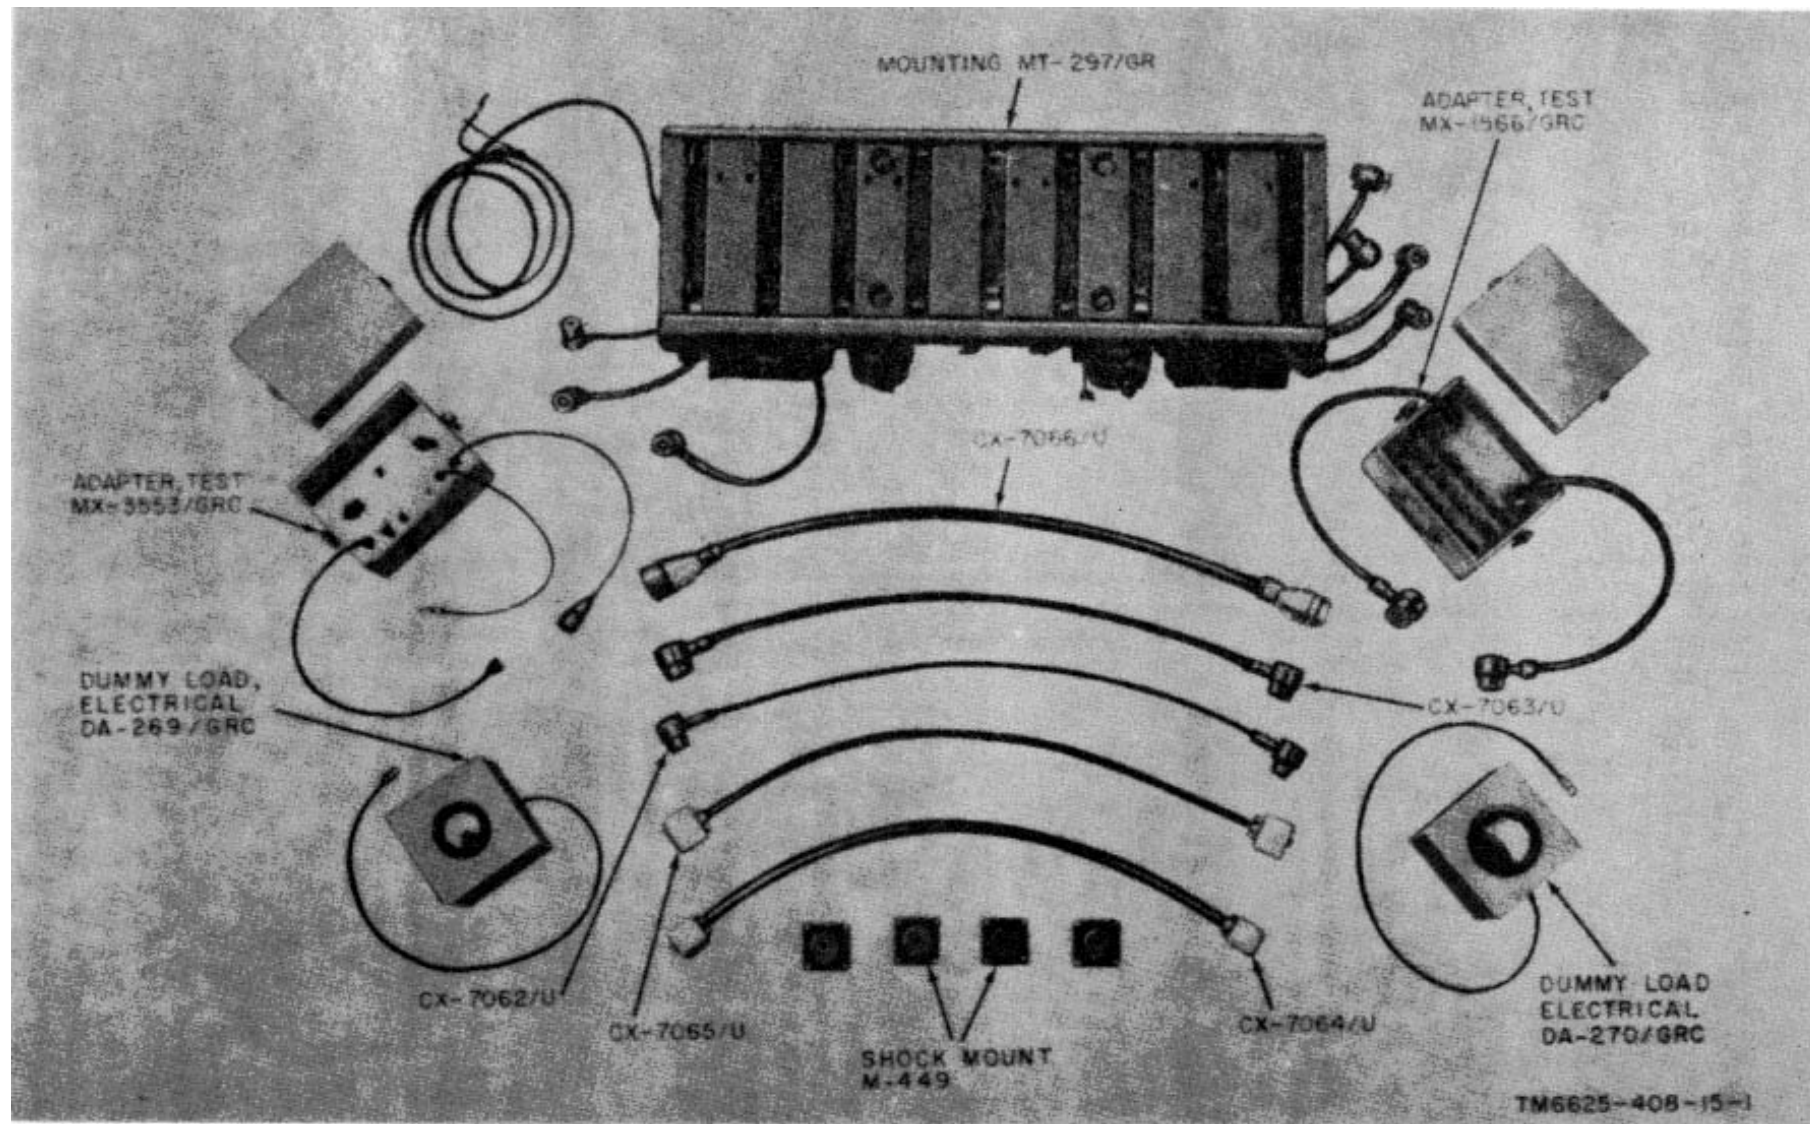
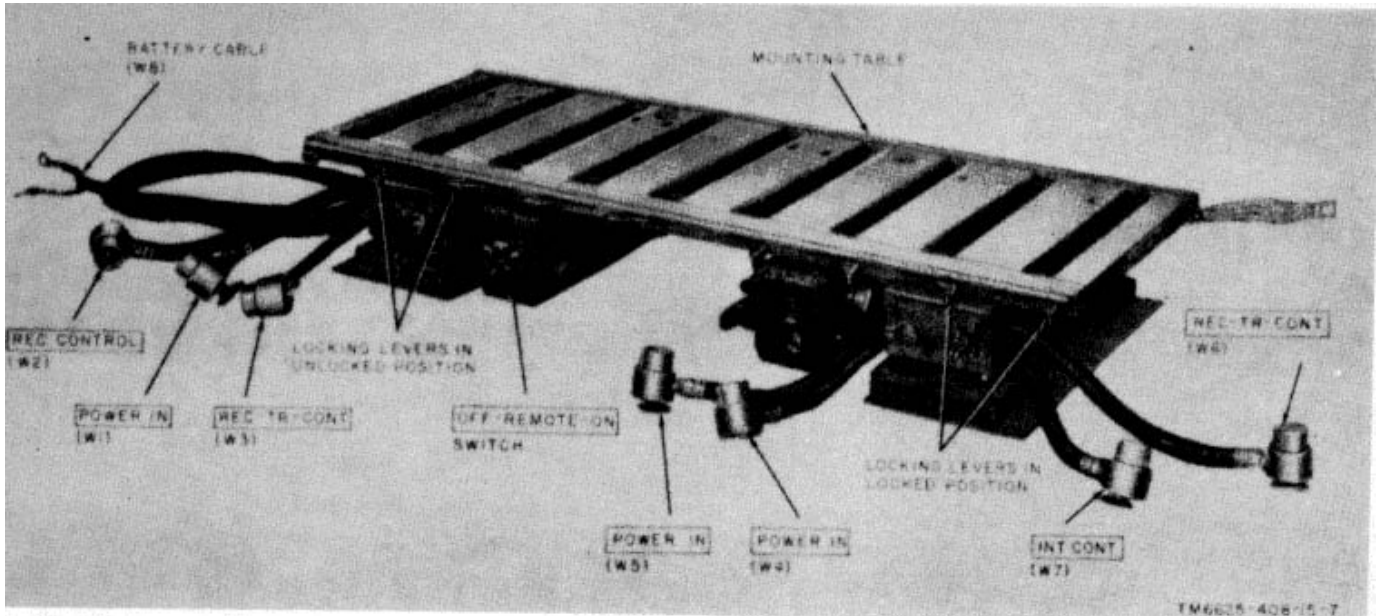

Figure 1. Test Facilities Kit, Radio MK-153/GRC.
Figure 5. Mounting MT-297/GR.
a. Test Facility Kit, Radio MK-163/GRC (fig. 1) contains maintenance equipment required to facilitate third echelon and higher maintenance on components of Radio Sets AN/ GRC-3 through -8, and AN/PRC-8, -9, and -10.
The components of Test Facilities Kit, Radio MK-153/GRC are listed in the basic issue items list (app. III) and are illustrated in figure 1.
a. *Dummy Load, Electrical DA-269/GRC* (fig. 1). The high-power dummy antenna is a radiofrequency (RF) ammeter with a resistor ring and cable assembly mounted in a wooden box. The RF ammeter is a 0-1-ampere meter mounted on the front panel of the box. A 34 inch long coaxial cable, terminated with a coaxial connector plug, is used to connect the high-power dummy antenna to the antenna output socket of Receiver-Transmitter RT-66/ GRC, RT-67/GRC, or RT-68/GRC (receiver-transmitter).
b. *Dummy Load, Electrical DA-270/GRC* (fig. 1). The low-power dummy antenna is similar in appearance
c. *CX-7062/U* (fig. 1). The CX-7062/U is an 8-conductor rubber covered cable with a 9pin male connector at each end.
d. *CX-7063/U* (fig. 1). The CX-7063/U is a 16-conductor rubber covered cable with a 14pin male connector at each end.
e. *CX-7064/U* (fig. 1). The CX-7064/U is a 15-conductor rubber covered cable which is terminated at one end with a 15-pin male connector and the other end with a 15-pin female connector.
f. *CX-7065/U* (fig. 1). The CX-7065/U is a 20-conductor rubber covered cable. One end terminates to a 20-pin male connector and the other end to a 20-pin female connector.
g. *CX-7066/U* (fig. 1). The CX-7066/U is a 20-conductor rubber covered cable. It terminates at one end to a 26-pin male connector and the other end to a 26-pin female connector.
j. Mounting MT-297/GR (fig. 5). The mounting base is used to mount the major units under test and to interconnect the various units.
- (1) The mounting table is channeled to engage the rails on the bottom of the radio equipment. Locking levers are provided on the front edge of the mounting table to secure the unit on the mounting base.
- (2) Cables are provided to connect the mounting to the major units and to the source of direct current (dc) voltage.
- (3) A receptacle on the rear inner, surface of the junction box is provided for making connection to either Local Control C-434/GRC or Control C-435/ GRC to interconnect such a control to the rest of the system.
k. Shock Mounts M-449. Shock Mounts M-449 (fig. 1) are used for installation of the mounting base.
a. *Installation of Mounting MT-297GR.* (fig. 5) The mounting base serves as a table and junction box for the AN/GRC-3 through -8 radio equipment to be tested. To install the mounting base, proceed as follows:
- (2) Connect battery cable W8 (fig. 5) of the mounting to a 12' or 24-volt dc power source, depending on the operating voltage of the radio equipment to be tested. Connect the insulated lead to the positive (+) terminal of the voltage source and the bare lead to the negative (-) terminal of the voltage source.
Mounting MT-297/GR (fig. 5):